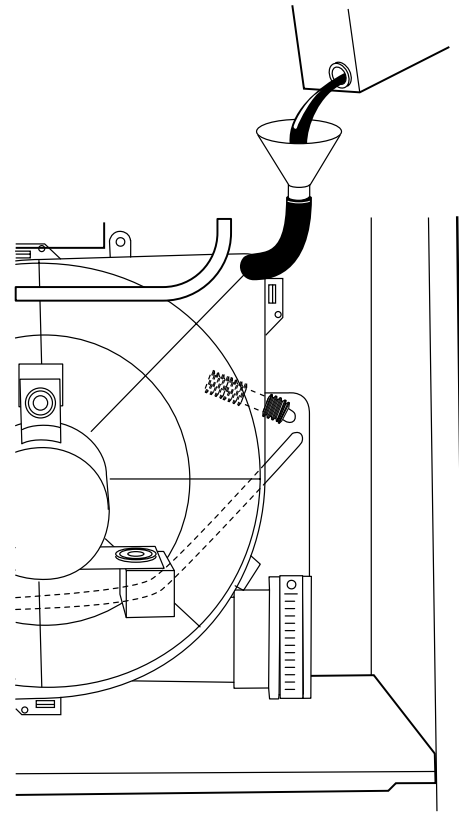

Fig. 46—Filling Condensate Trap
4. Pour 1 quart of water into funnel/tube. Water should run through inducer housing, overflow condensate trap, and flow into open field drain. (See Fig. 46.)